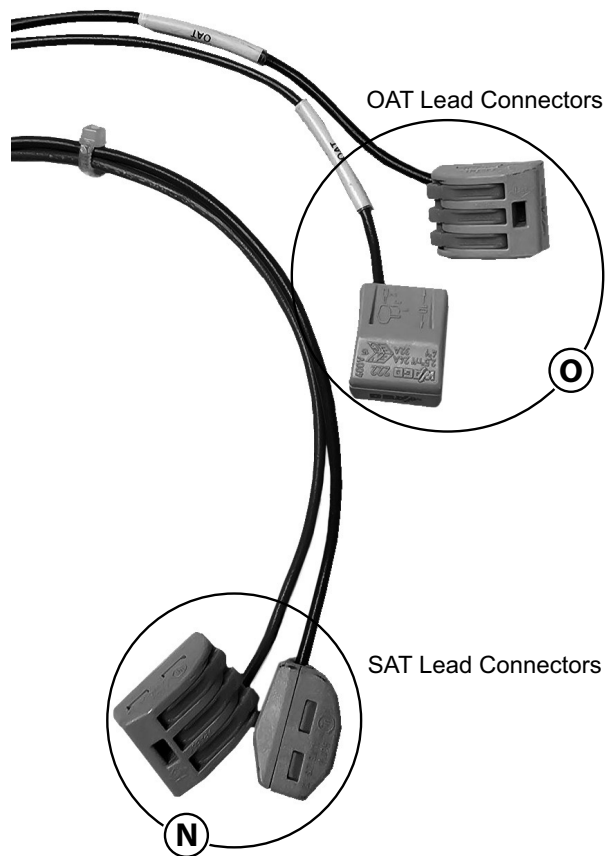

Fig. 32 — SAT and OAT Lead Connectors
2. Locate the SAT and OAT Leads from the harness. See Fig. 32.